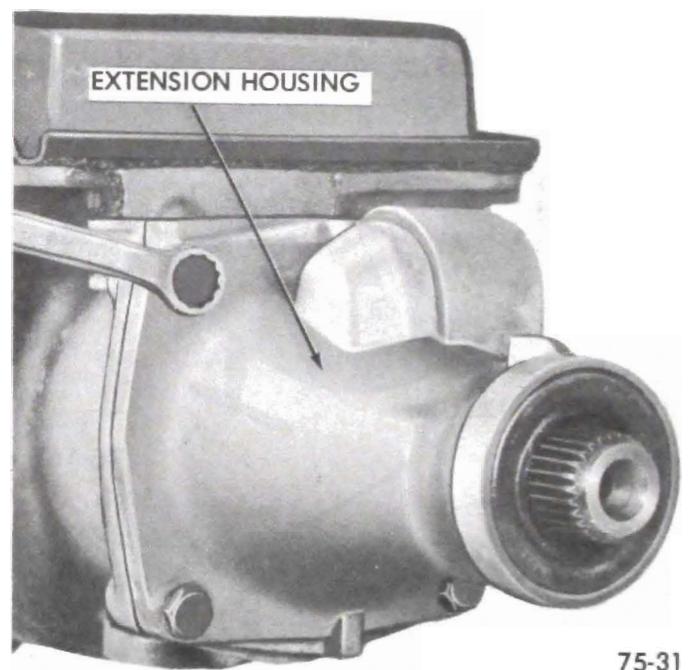

Figure 75-73
1. Remove bolt retainer and speedometer driven gear from side of extension housing and remove four (4) extension housing to case attaching bolts. See Figure 75-73.